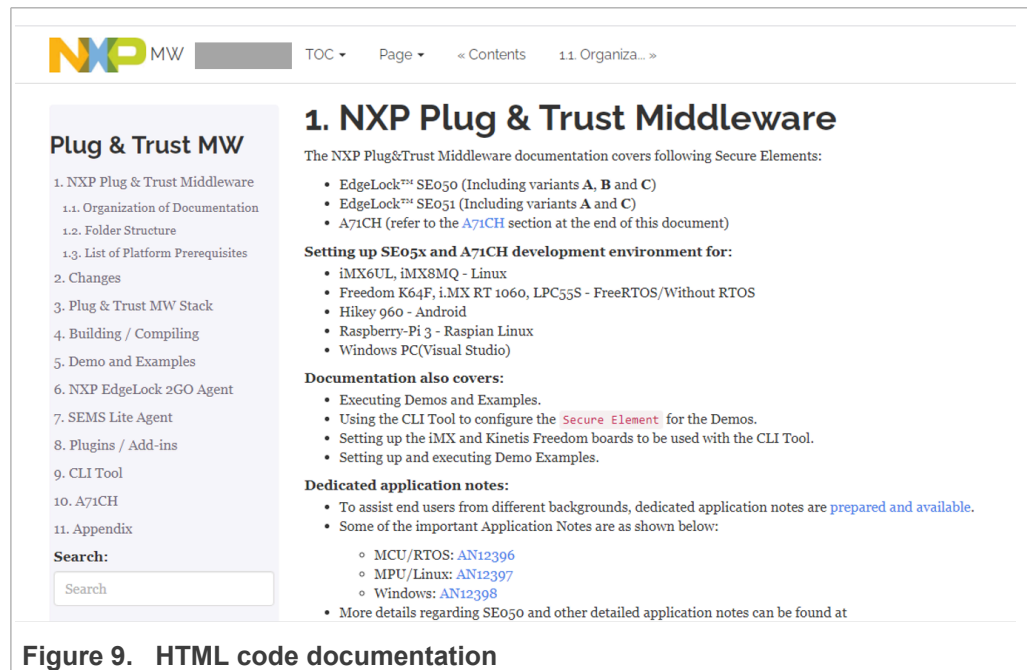

Figure 9. HTML code documentation
5. A browser with the documentation landing page will open as shown in Figure 9: